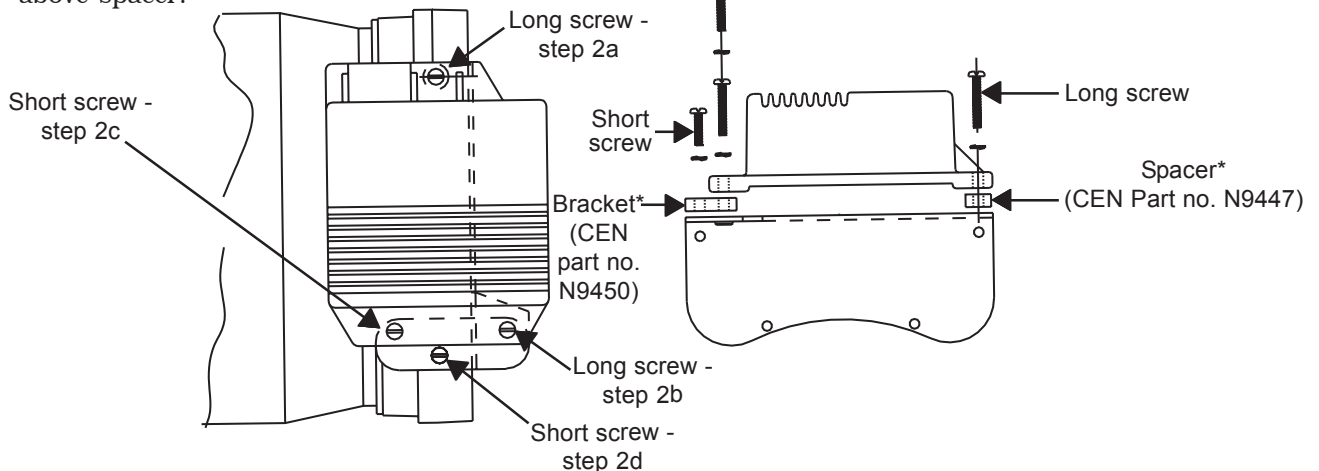

Figure 1—N1380-1/N1380-2 Alternator with New N3104 or N3109 Regulator
1. Place new bracket, spacer, and regulator on top of control unit as shown in Figure 1 or 2.
2. Use a suitable adhesive, such as Loctite® 222 on new hardware. Follow manufacturer's instructions. Loosely install (see Figure 1 or 2):